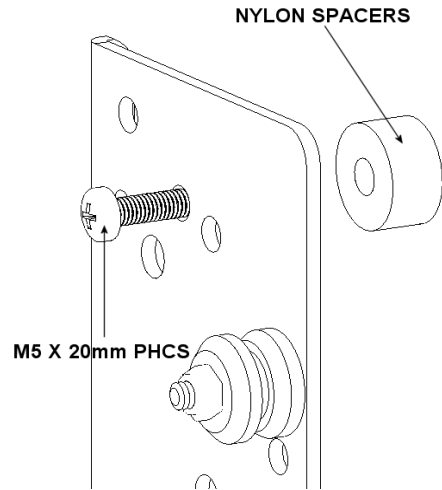
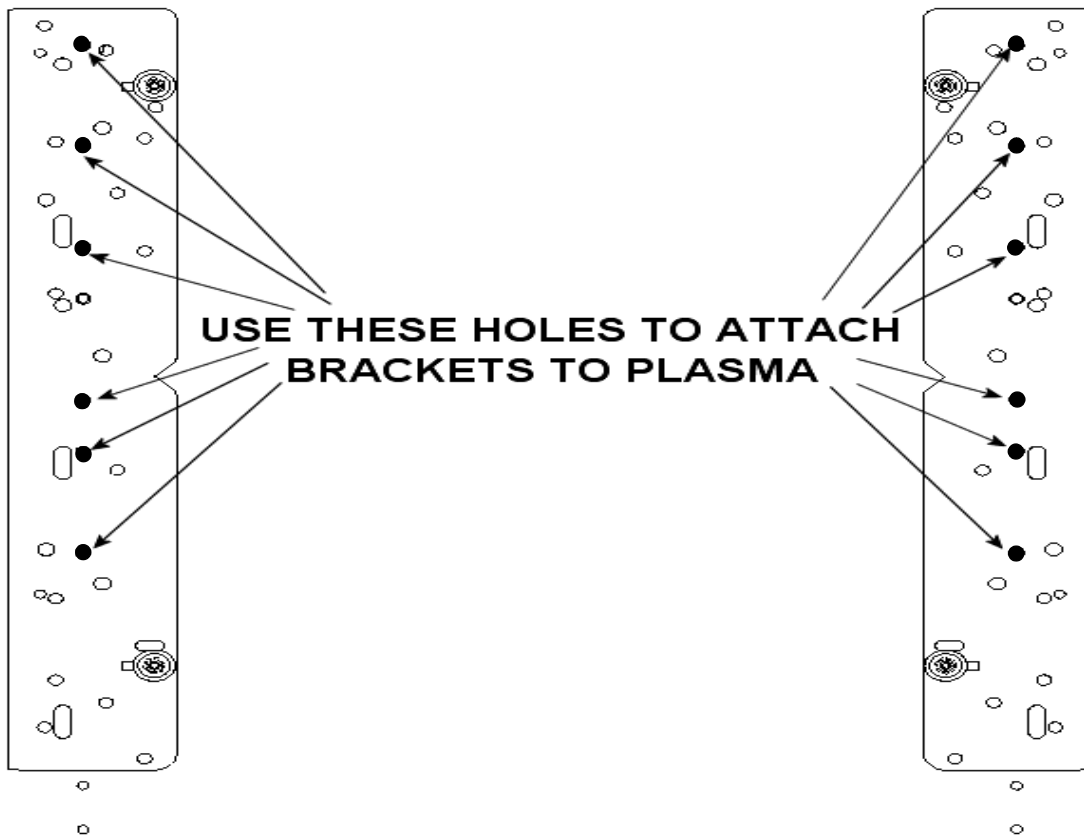

Figure 34. Spacer Installation for Group 11
Figure 35. Bracket Attachment for Group 11
4. Place the interface brackets over the Nylon spacers (see Figure 34 and Figure 35).
5. Using the hardware from the parts bag labeled F, attach the interface brackets to your Large Flat Panel display (see Figure 34 and Figure 35). Do not overtighten the mounting screws.